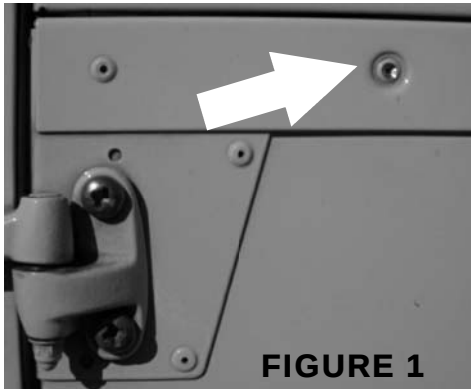
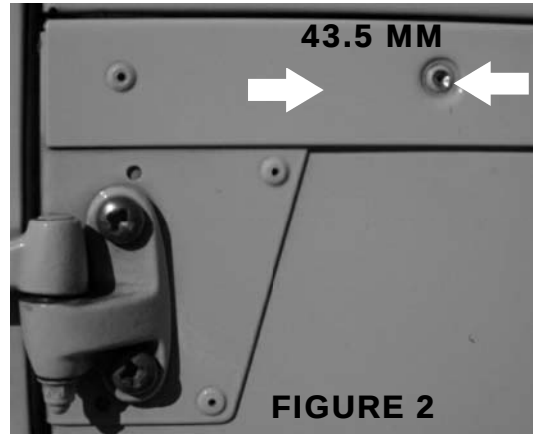
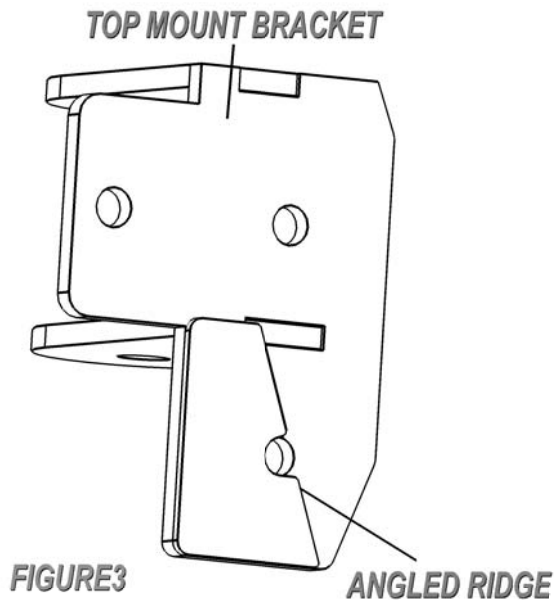

FIGURE 1
FIGURE 2
FIGURE 3
For the two centre holes, fit two M8 x 20 hex bolts and flat washers. Behind fit a flat washer and nyloc nut (figure 2). Tighten all bolts.
- E)** Looking at the back right of the vehicle, you will see three pop rivets joining the top body panel to the bottom body panel. The angled bracket will be placed on the body with angled side on the second pop rivet from the left top body panel (figure 1). From the second pop rivet, measure 43.5 mm and make a mark (Figure 2). The bracket will line up with the angled panel on the body, as the bracket has an angled ridge behind it (Figure 3). Mark your third hole at the bottom (figure 4). Using your drill machine and a 8 mm drill bit, drill the three holes. Fit three M8 x 35 hex bolts with flat washer and secure it with a flat washer and nyloc nut (figure 5 & 6). Do not tighten bolts.
You will see four holes at the back right of the bumper (figure 1). With your clinch nut tool fit four M8 clinch nuts (figure 2). Fit the back bracket and two spacing brackets. First fit the two spacing plates (Item 13) then the bottom bracket. Use four M8 x 50 hex bolt, M8 Spring washer and M8 flat washer (figure 3 & 4). Do not tighten bolts yet.
Fit your guide bracket with the short side facing to the left side of the vehicle (Figure 1). Leave a gap of 2 to 3 mm (figure 2). Close the wheel bracket against the door and with your marking pen, mark the holes (figure 3).